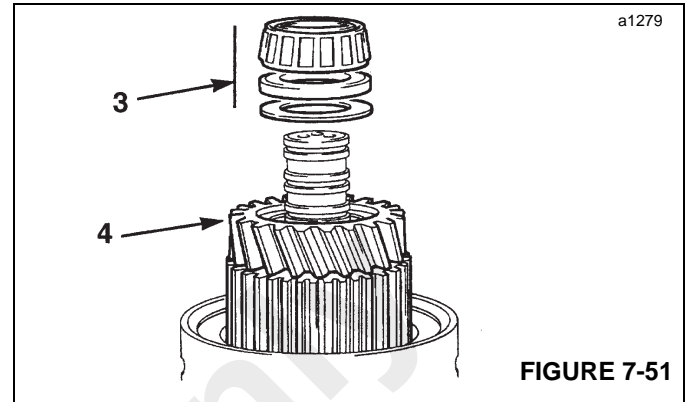

FIGURE 7-51
- Remove bearing (3, Figure 7-51) using a suitable puller. Remove thrust washer and plastic type washer.
- Remove the gear and splined hub assembly (4, Figure 7-51) with the taper roller bearing.